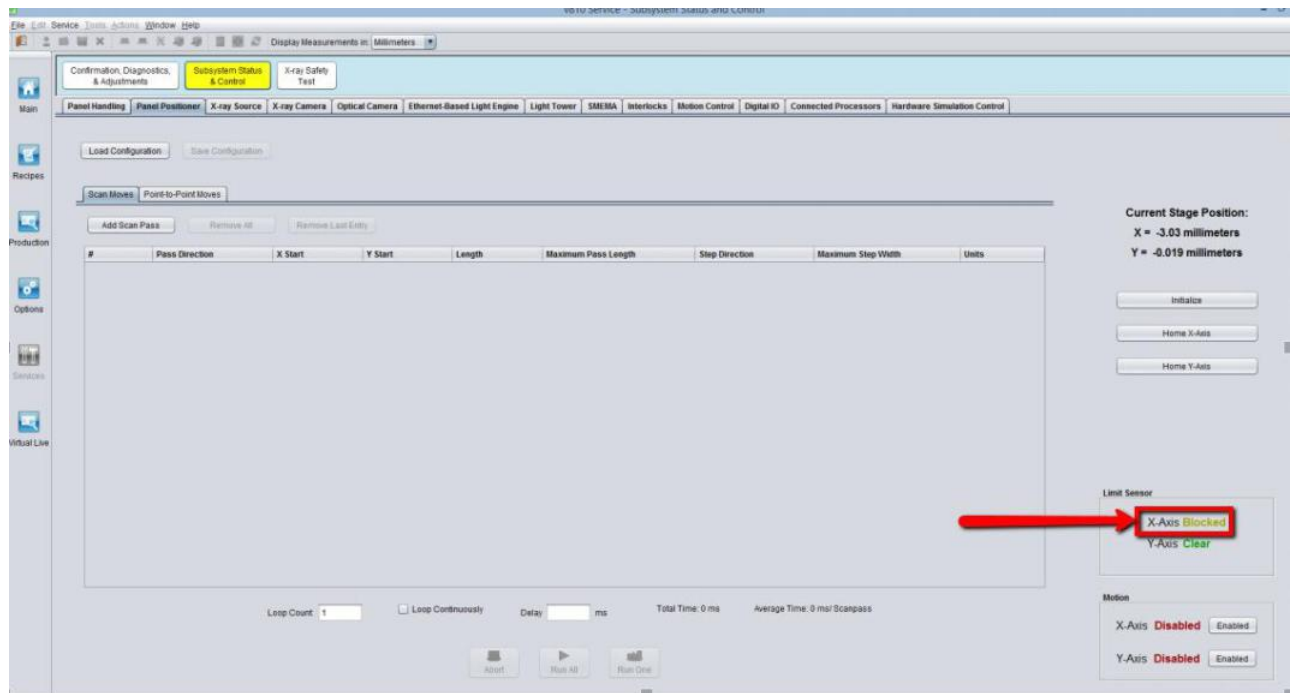

Figure 12 X axis Limit Sensor (BLOCKED)
- b) Move X axis stage towards minimum hard stop (Left Side) & check Limit sensor where must stated as “ Blocked” as shown in Figure 12.